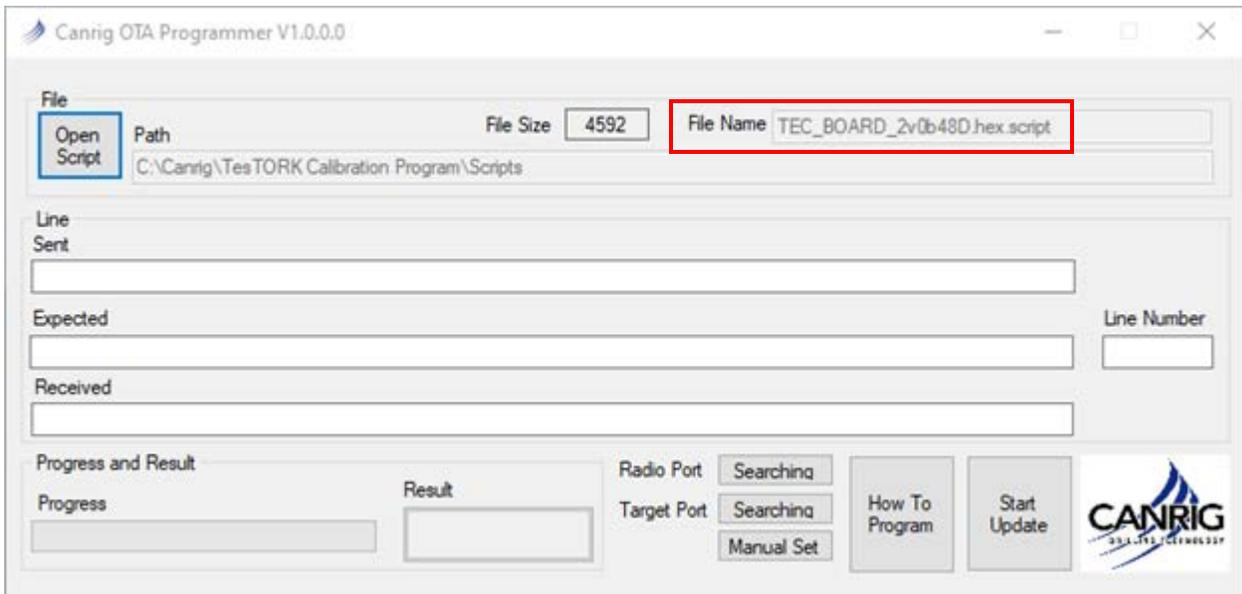

Figure 7: Displaying update script file selected
4. Navigate to where the firmware update script is located, select the file and then select the **Open** button. The screen will update to show the selected file (Figure 7).